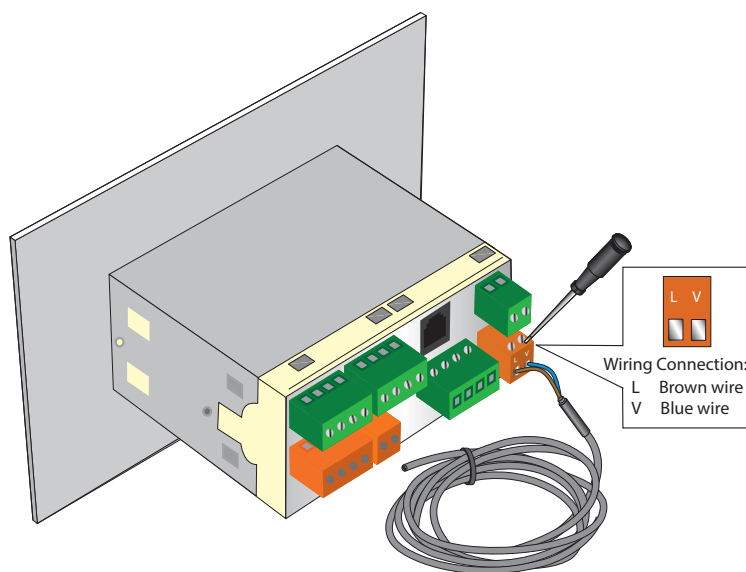

Figure 13 *High Voltage Power Supply Connections*
Connect the power supply to the monitor (1) as shown in *Figure 13*.